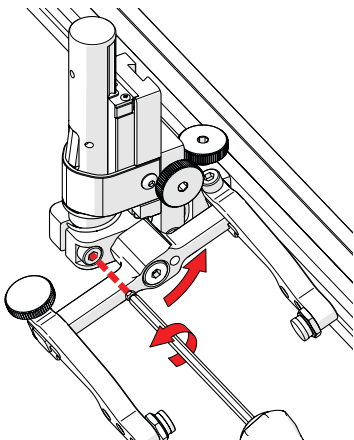

Fig. 114 - Loosen 3 mm screw
2. Using the supplied 3 mm hex driver loosen the transverse adjustment screw (*Fig. 114*) and rotate the yoke about the vertical shaft achieving the desired angle.